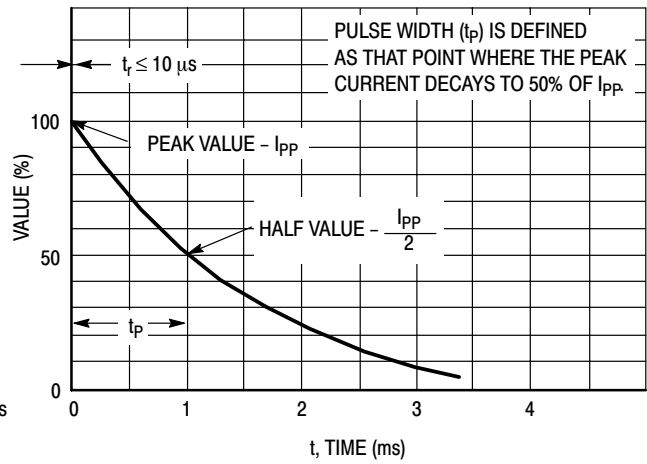

Figure 2. Pulse Waveform
3. Surge current waveform per Figure 2 and derate per Figure 3 of the General Data – 600 Watt at the beginning of this group.